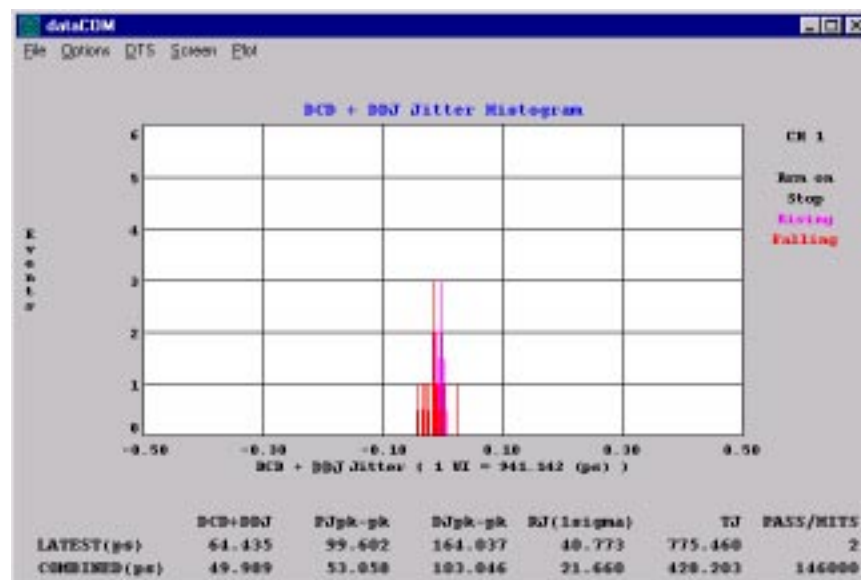

**Figure 6.40 Zoomed dataCOM Plot – Unit Intervals Distribution**
If you were to zoom in on a very narrow region of the Unit Interval Distribution you would see a graph similar to the one in Figure 6.40 which is displaying the jitter distribution for a single edge.
Figure 6.40 graphically displays the jitter distribution for a single edge. The leftmost vertical line represents its earliest occurrence while the rightmost vertical line represents its latest occurrence. The middle vertical line represents its mean occurrence. The edge occurrence information can be compared with theoretical edge positions based on the Unit Interval to isolate the jitter into various components.
The DCD+DDJ number comes from the maximum deviation of mean edge positions from their theoretical positions. The distributions of the data shown in Figure 6.40 around their mean edge positions is the result of the Periodic Jitter (PJ) and the Random Jitter (RJ). The PJ component is the measured “peak-peak” spectral component computed from an FFT of the variance data (shown in Figure 6.44). The RJ component is calculated using the RMS sum of each frequency bin between the RJ Fmax and Fmin frequencies. This technique is called the “Blackman-Tukey” algorithm for power spectral analysis and has been well documented in other text.
The Data Com “DCD + DDJ Jitter Histogram” panel in Figure 6.41 is displaying the “normalized accumulation” of all the DCD + DDJ measurements taken during the run shown in Figure 6.40. The width of this plot is normalized to one Unit Interval of the data period.